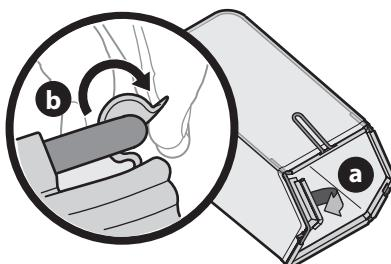

Figure 6
- Perform the following to assemble the grass catcher (Figure 6).